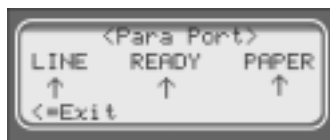

Figure 4-25 Parallel Port Status View
3. Select the communication port you wish to view. See Figure 4-24 and Figure 4-25.